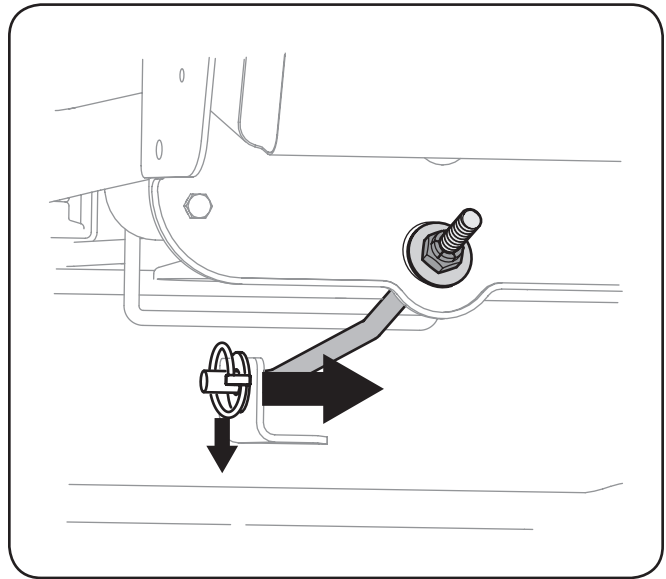

Figure 7-5
- Remove the cotter pin from the end of the stabilizer rod and slide the stabilizer out of the hanger bracket on the deck. See Fig. 7-5.
- a. With the deck beneath the mower frame, attach the stabilizer rod. See Fig. 7-5.